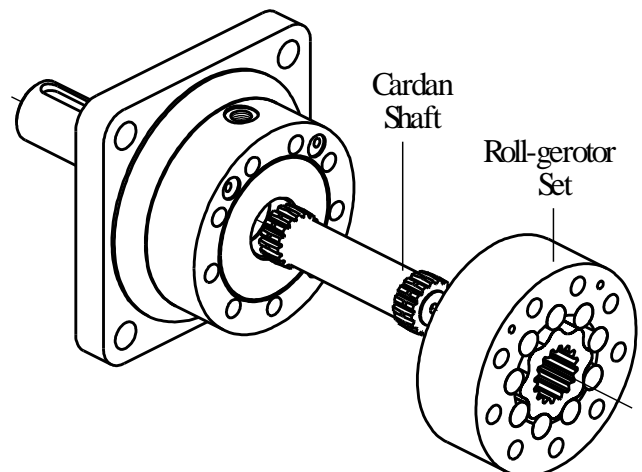

Fig.4
10. Remove cardan shaft from the splines of output shaft (see Fig.4).